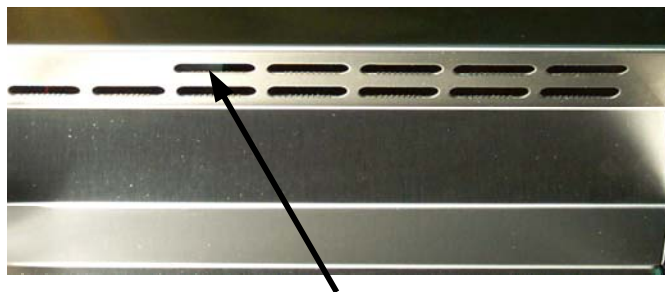

Figure 1: The potentiometer is accessible through the vent in the cowl assembly indicated by the arrow.
- B. A potentiometer regulates the heat produced by the air heater. It is mounted on the HPT's controller board and is accessible through a slot in the left side of the cowl assembly (see Figure 1 below). **NOTE:** The filter screen must first be removed.